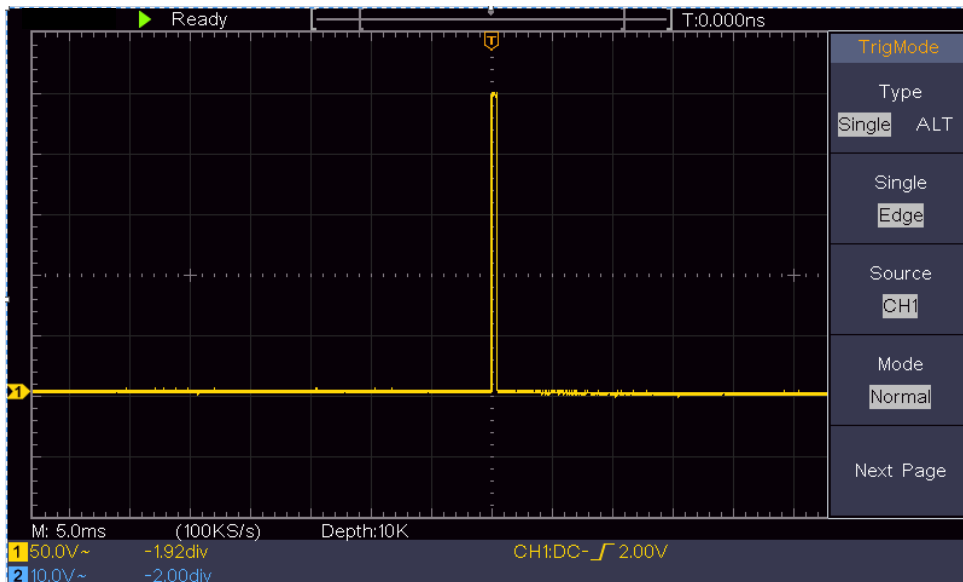

Figure 6-3 Capturing a Single Signal
- (2) Adjust the **Vertical Scale** and **Horizontal Scale** rotary controls to set up a proper vertical and horizontal ranges for the signal to be observed.
- (3) Push the **Acquire** button to display the right menu.
- (4) In the right menu, select **Acqu Mode** as **Peak Detect**.
- (5) Push the **Trigger Menu** button to display the right menu.
- (6) In the right menu, select **Type** as **Single**.
- (7) In the right menu, select **Single** as **Edge**.
- (8) In the right menu, select **Source** as **CH1**.
- (9) In the right menu, press **Next Page**, select **Coupling** as **DC**.
- (10) In the right menu, select **Slope** as  (rising).
- (11) Turn the **Trigger Level** rotary control and adjust the trigger level to the roughly 50% of the signal to be measured.
- (12) Check the Trigger State Indicator on the top of the screen, if it is not Ready, push down the **Run/Stop** button and start acquiring, wait for trigger to happen. If a signal reaches to the set trigger level, one sampling will be made and then displayed in the screen. By using this approach, a random pulse can be captured easily. For instance, if we want to find a burst burr of high amplitude, set the trigger level to a slightly higher value of the average signal level, push the **Run/Stop** button and wait a trigger. Once there is a burr occurring, the instrument will trigger automatically and record the waveform during the period around the trigger time. By turning the **Horizontal Position** rotary control in the horizontal control area in the panel, you can change the horizontal triggering position to obtain the negative delay, making an easy observation of the waveform before the burr occurs (see *Figure 6-3*).